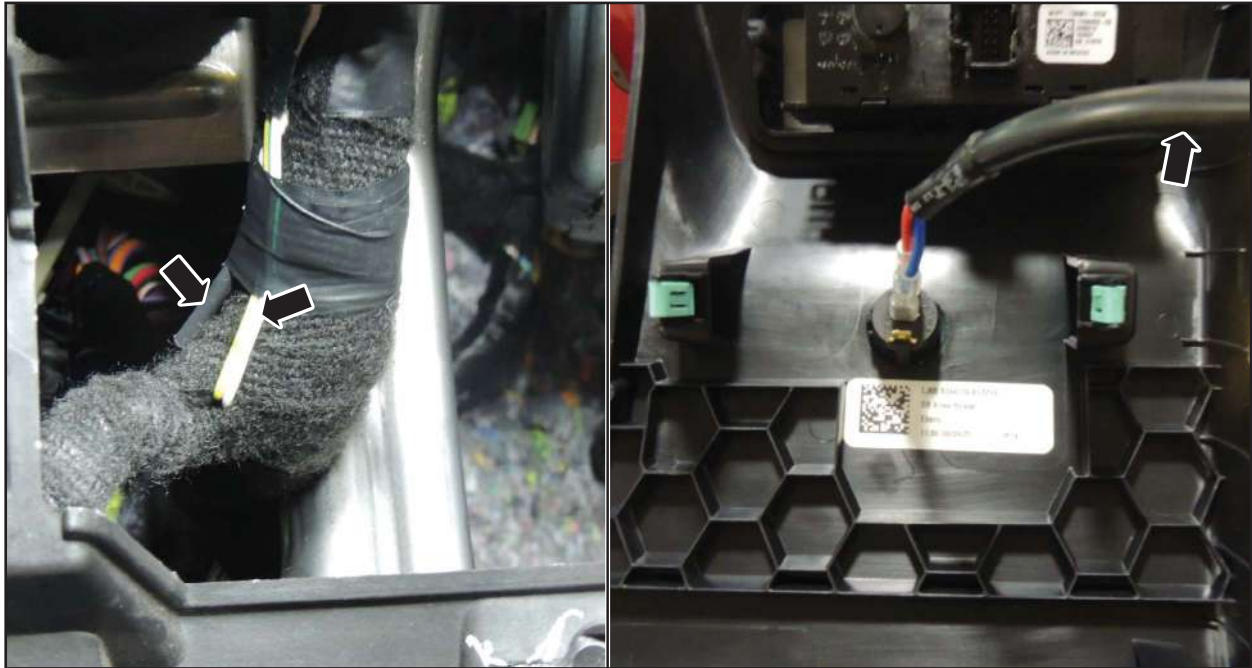

FIGURE 51
51. Connect the light bar switch to the instrument panel wiring. See Figure 51.